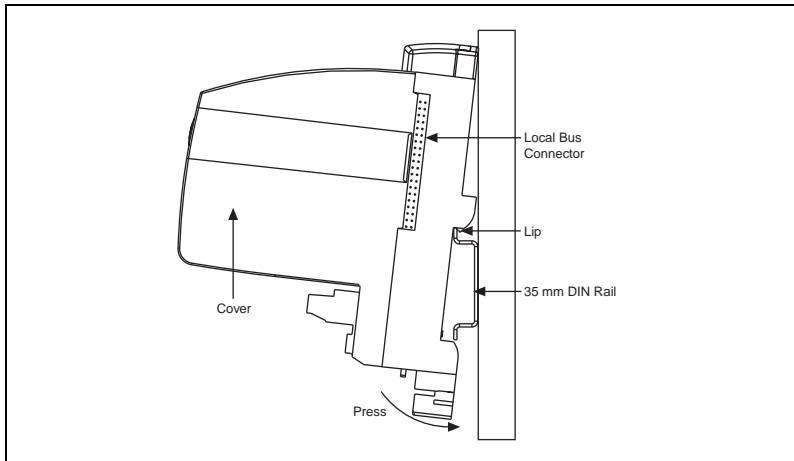

Figure 2. Installing the Network Module onto the DIN Rail
2. Hook the lip on the rear of the FP-1000 onto the top of the DIN rail, and press the FP-1000 down onto the DIN rail, as shown in Figure 2.